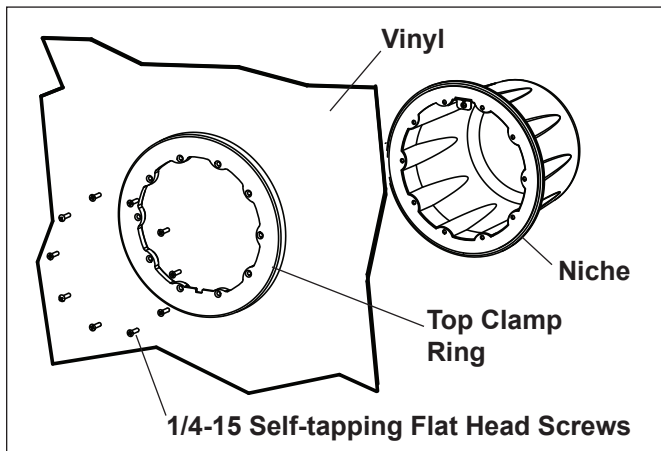

Figure 5. Vinyl Pool Installation
- c. Line up the face ring with the niche. Be sure to orient the niche so that the 'TOP' marking of the niche is in the 12 o'clock position and secure the face ring to the niche using using ten (10) $\frac{1}{4}$ -15 self-tapping flat head screws. Torque screws in a cross pattern to approximately 25 in-lbs. See Figure 5.